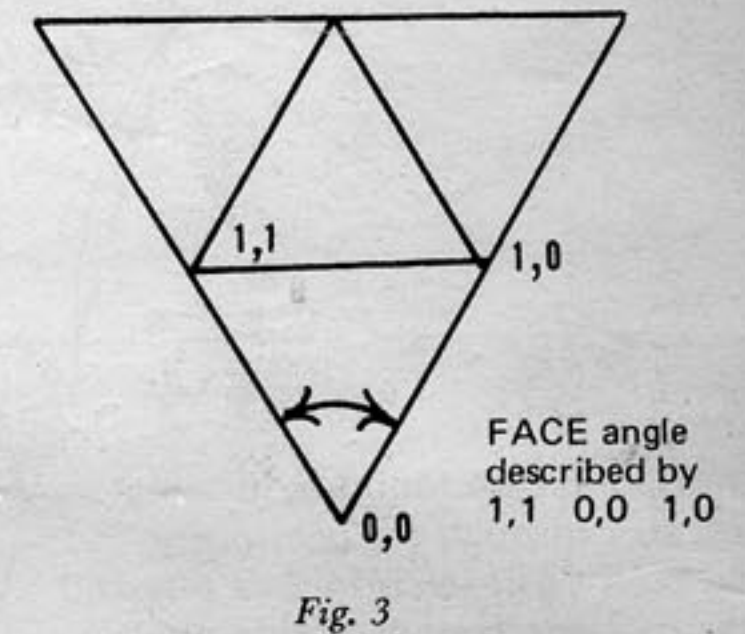

Fig. 3
- **FACE 1,1 0,0 1,0** refers to one angle of the triangle described by these points. The angle given whose apex is at the second vertex identification shown; in this case, 0,0 (Fig. 3). Face angles refer to angles of triangles generated by chord factors, not spherical angles on a true sphere. Again, the number is given in degrees.